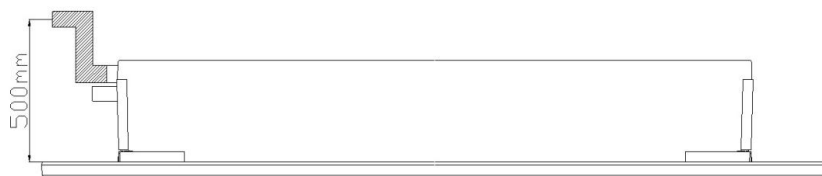

Figure B.7.1
- The unit is fitted with a condensate pump with a maximum of 500mm lift. (Figure B.7.1)